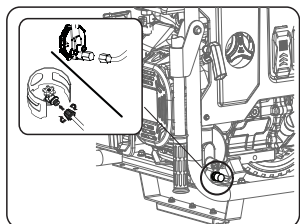

Fig 10
- Connect the propane hose to the intake nozzle of regulator ; Open the valve of LPG bottle (See fig 10)